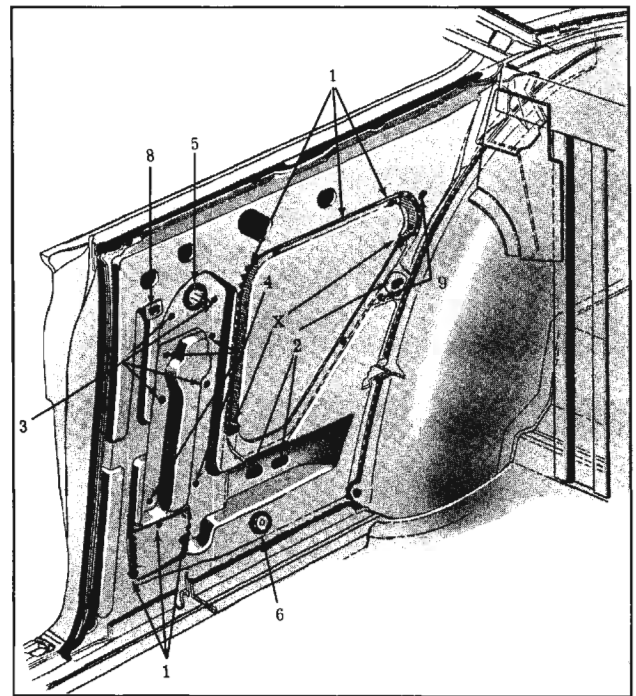

Fig. 16-69 Inner Panel Sealing ("47" and "57" Styles)
- (47 and 57 styles - Figure 16-69)
Item 9 for "47" and "57" styles only. (Fig. 16-69)